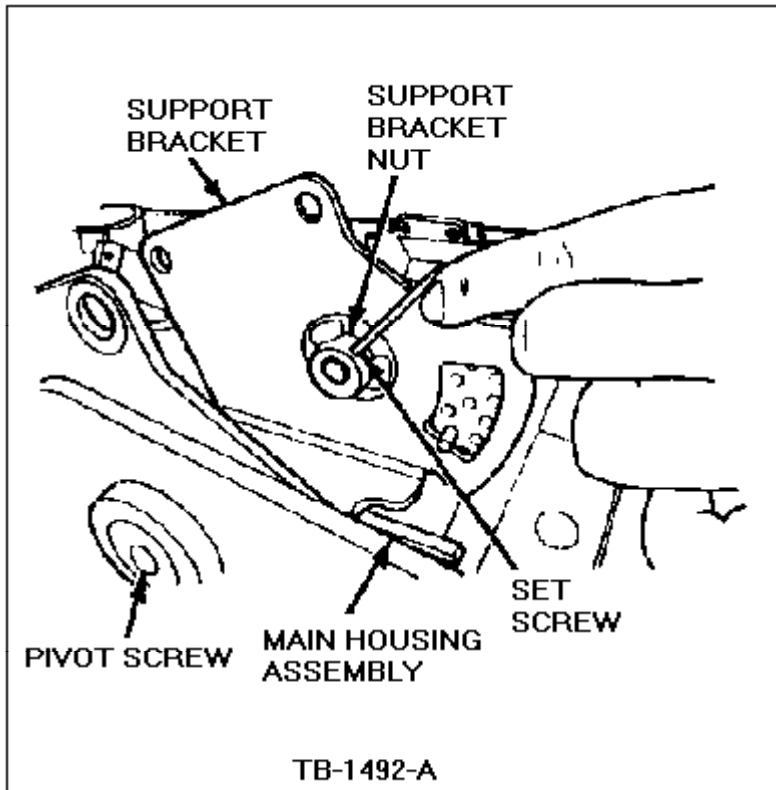

Figure 25 - Article 90-5-10
34. Remove the set screws from the two (2) support bracket nuts, Figure 25.